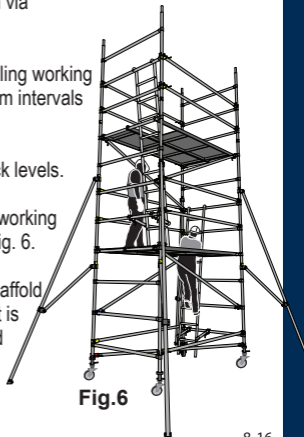

Fig.6
17. Tower is now complete with top working platform at 4m height, as shown in Fig. 6.